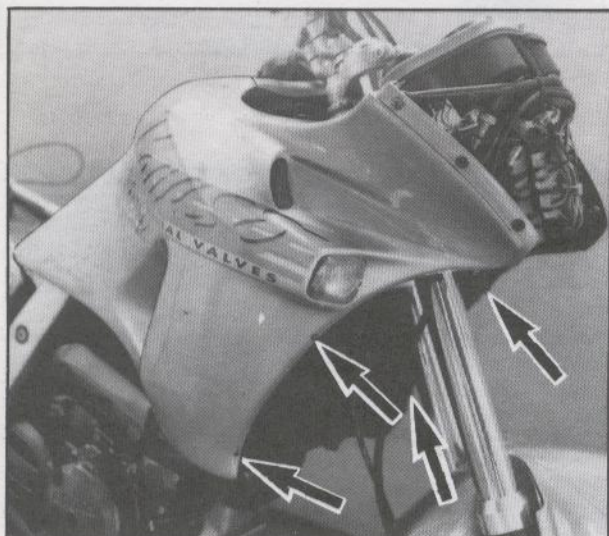

Fig. 10
- Svitare e togliere le viti indicate in (Fig. 10).
- Unscrew and remove the screws indicated in (Fig. 10).